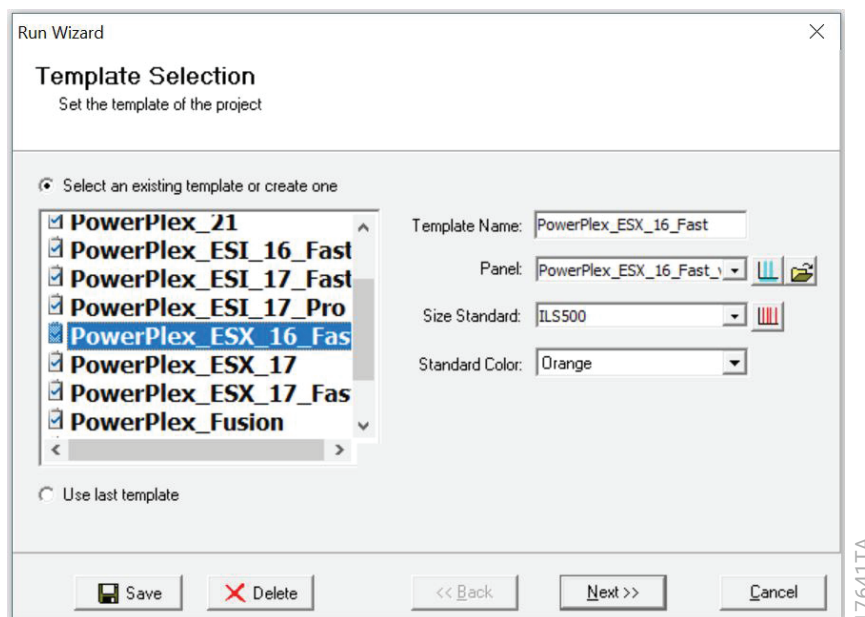

Figure 28. The 'Template Selection' window.
- Click on **Run** in the Magic Wizard or click the **Run Project** icon (green arrow) in the toolbar. The 'Template Selection' screen will appear (Figure 28). Select the PowerPlex_ESX_16_Fast template and the settings shown in Figure 28. Verify that the panel you created in Step 6 is selected in the panel drop-down field. The Size Standard must be ILS500 and the Standard Color must be Orange. Select **Next**.